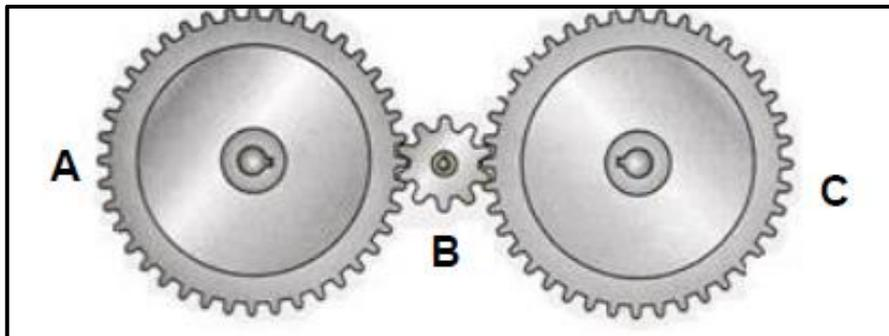

FIGURE 11.3
- 11.3 FIGURE 11.3 below indicates gears meshing with one another.